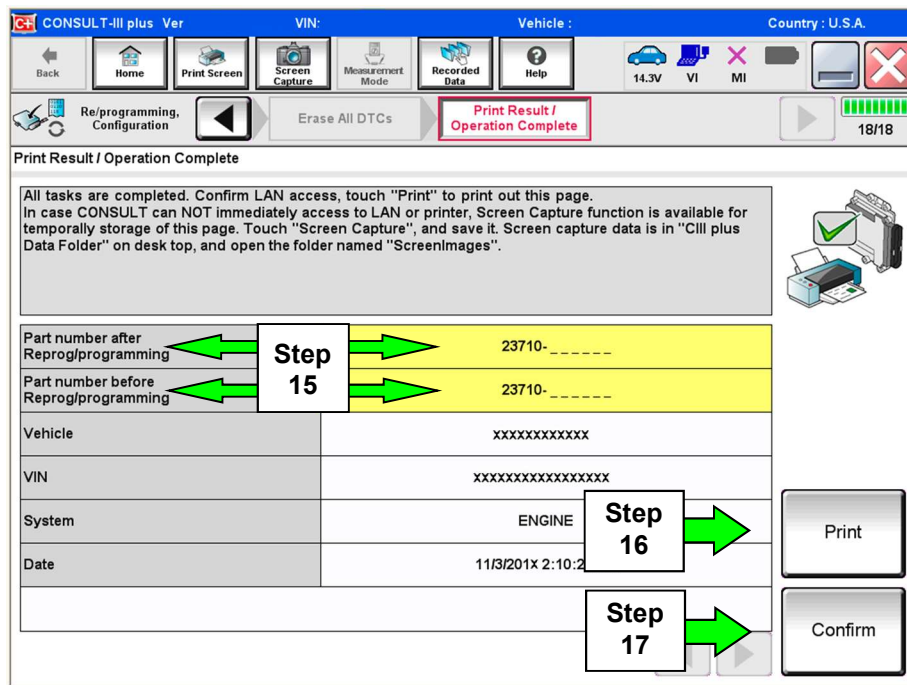

Figure 8
14. When the entire reprogramming process is complete, the screen Figure 8 will display.
16. Print a copy of this screen (Figure 8) and attach it to the repair order for warranty documentation.